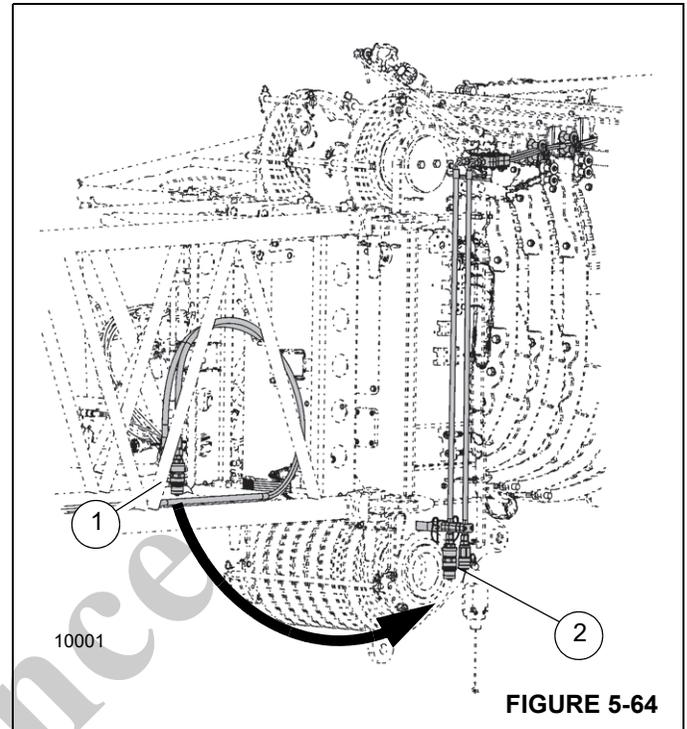

FIGURE 5-64
1. Disconnect the hydraulic hoses (1, Figure 5-64) from the boom extension, heavy duty boom extension, or lattice insert from the hose drum hydraulic hoses (2) on the boom nose.
3. Store excess hose length on the hooks (3) on the boom extension, heavy duty boom extension, or lattice insert.